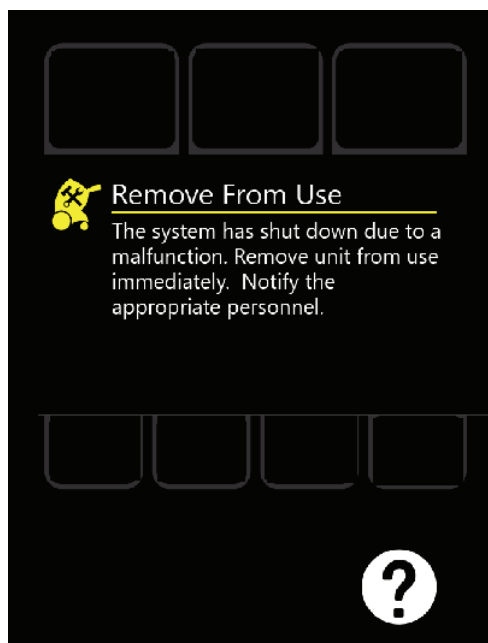
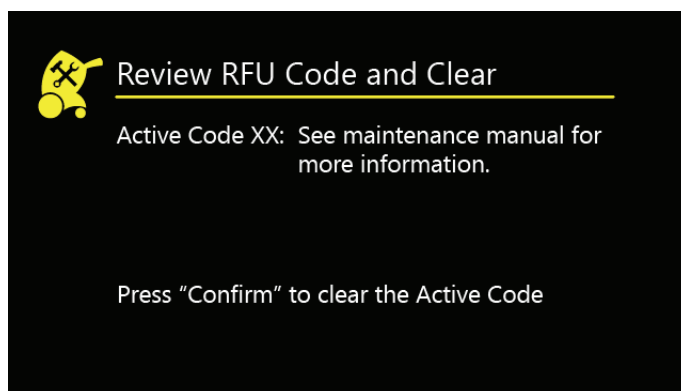

Figure 69: Remove from use
Figure 70: Review RFU Code and Clear
1. In the remove from use screen (Figure 69 on page 97), tap the help button to see the review RFU Code and Clear (Figure 70 on page 97).